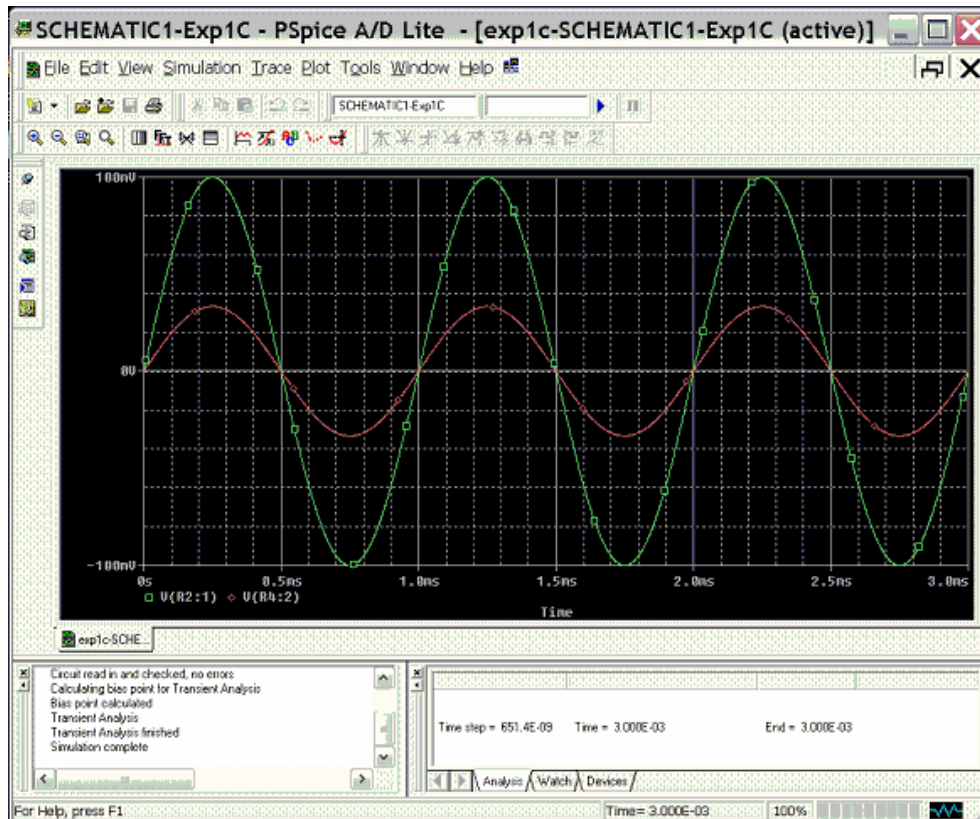

Figure C-10
- Click on the *Run* button. It is possible to set up many kinds of analyses using the *Simulation Settings* window. Since you have already told *PSpice* where you want to know the voltage, it will produce a plot with the signal you have asked for. If you do not get something that looks like figure C-10, ask for help.